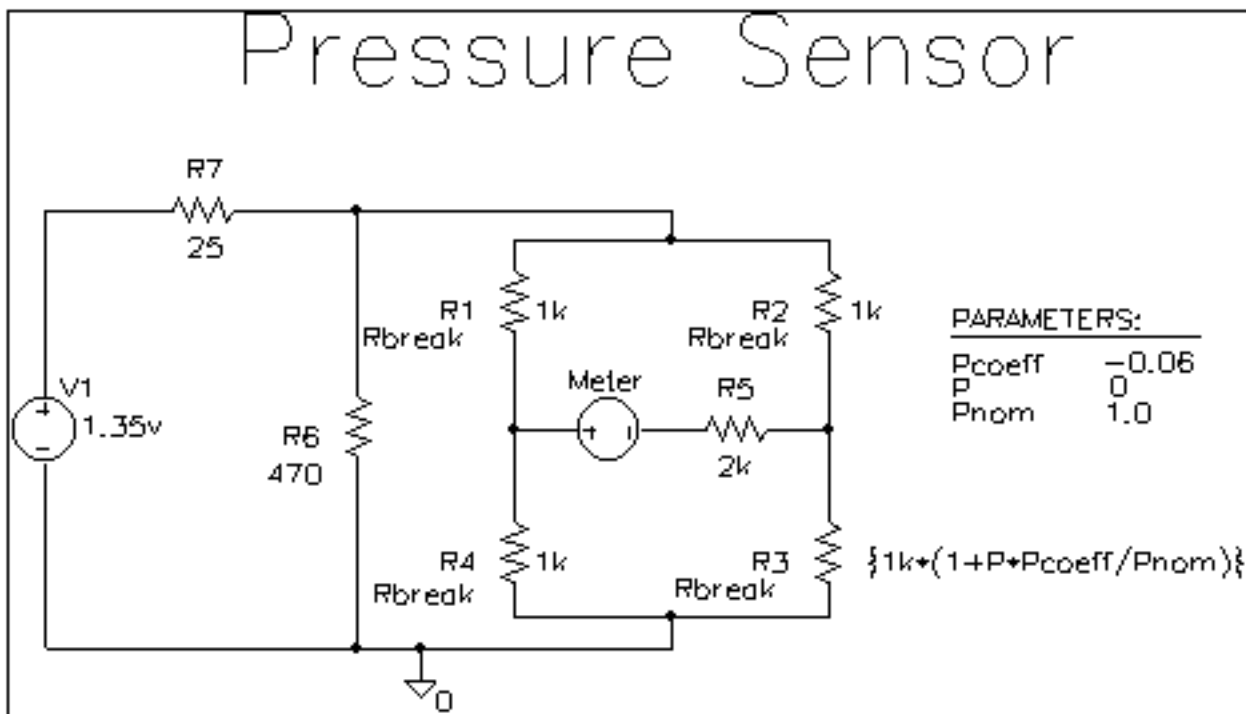

Figure 13-5 Pressure sensor circuit.
To begin, construct the bridge as shown in Figure 13-5 on page 577.
Define the part values as shown in Figure 13-5 on page 577. For the pressure sensor, you need to do the following:
2. Type the new value. Depending on the resistor you are changing, set its value to one of the following (refer to Figure 13-5 on page 577).
The model editing window should look something like Figure 13-5 on page 583.